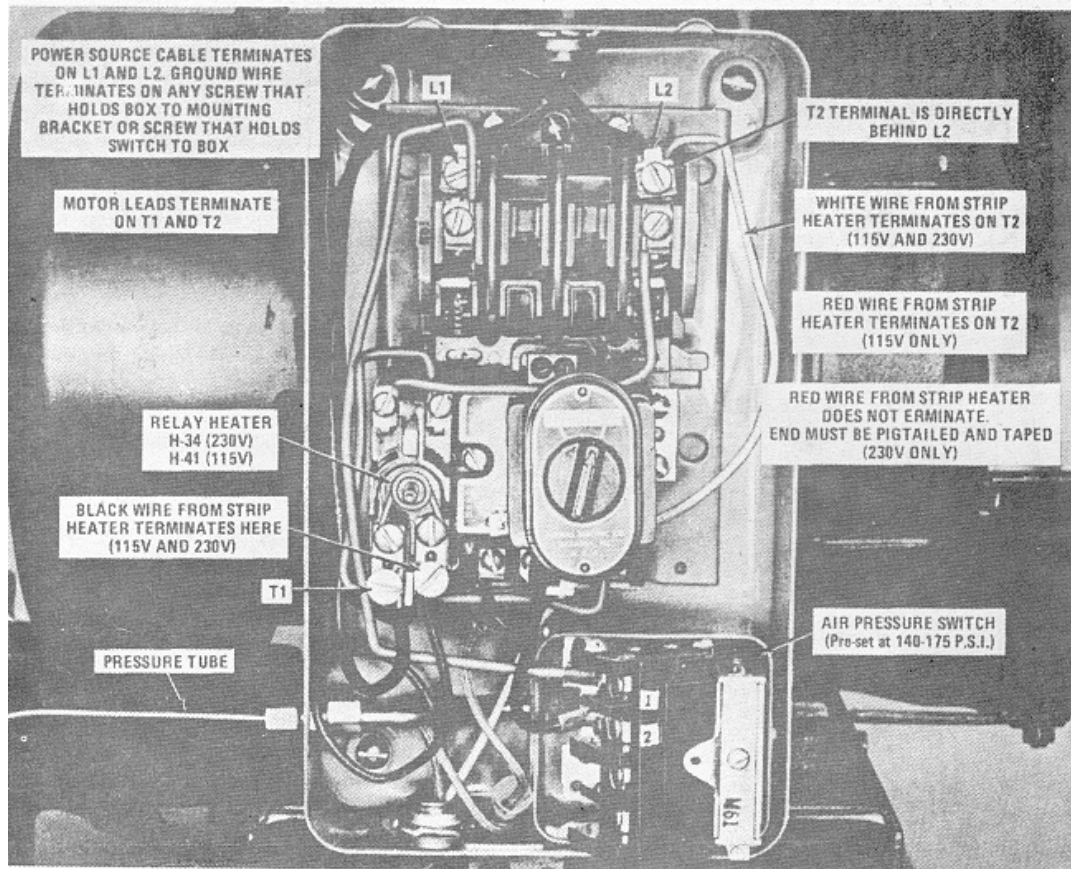

Figure 8. Magnetic Starter (shown with cover removed).
- c. Install the relay heater (refer to figure 8) marked H-41. They relay heater (H-41) is factory installed.
- c. Remove relay heater marked H-41 and replace with relay heater marked H-34 (refer to figure 8).
- a. Remove the cover from the magnetic starter (figure 8).